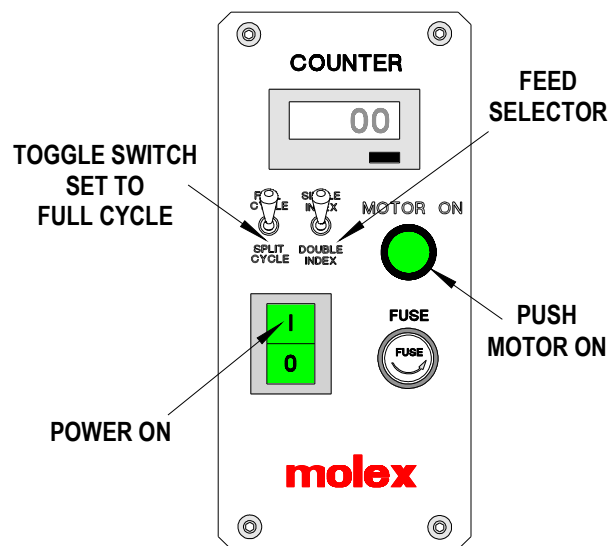

Figure 3-5
Note: When using the 64016-2000 Crimp Module, set the feed selector on the control panel to "SINGLE" or "DOUBLE", depending on the spacing of the taped terminals. See Figure 3-5.
1. Set the toggle switch on the control panel to "Full Cycle". See Figure 3-5.
The split cycle is used only for closed barrel terminals, and helps to locate the terminal before crimping the wire. The ram will close partially to assist in locating the terminal for the termination. With the terminal located the wire can be placed into the terminal and terminated. To setup the machine for split cycle push the toggle switch on the control panel to "Split Cycle". See Figure 3-5.